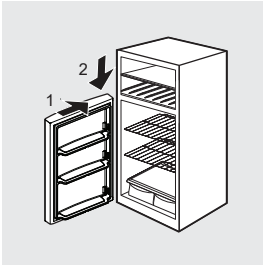

Figure 9
10. Lower the refrigerator door in the opened position on the bottom hinge pin and close the door (see Figure 9).